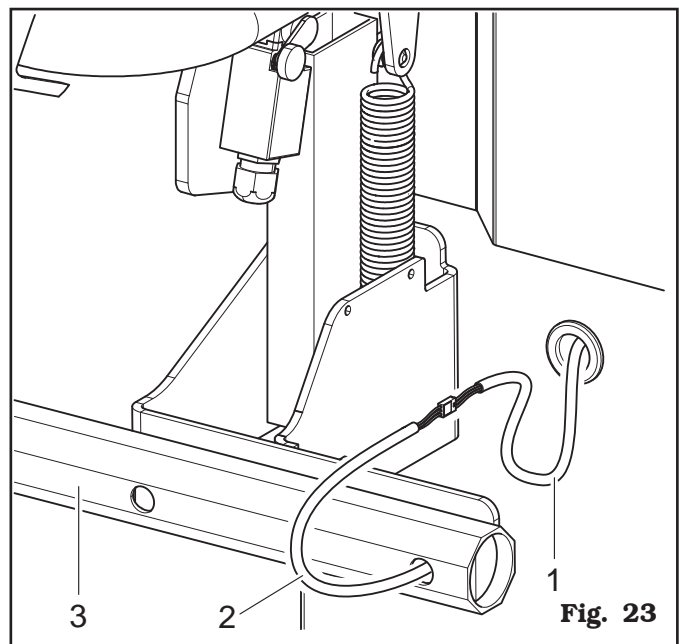

Fig. 23
4. Connect connector (**Fig. 23 ref. 1**) of the cable coming from inside the machine to connector (**Fig. 23 ref. 2**) of the cable coming from the gauge arm. Fit the section of the cable with the connectors inside the arm (**Fig. 23 ref. 3**).